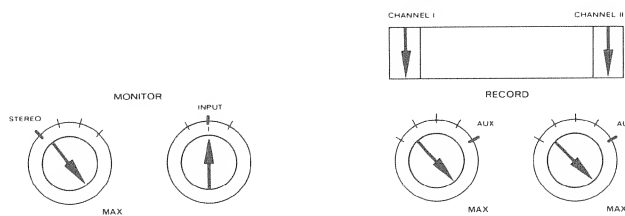

Fig. 6.5–65
- Set controls per fig. 6.5 –65.